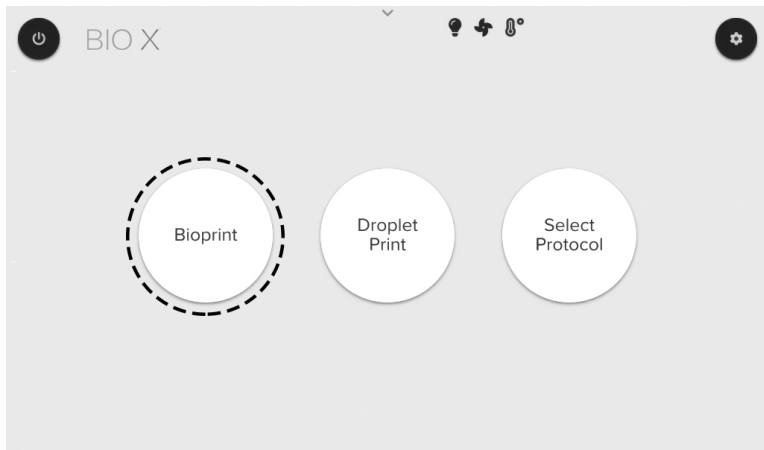

Figure 16: Start menu. Select Bioprint to proceed print to setup.
2. Select Bioprint from the Start menu (Figure 16).